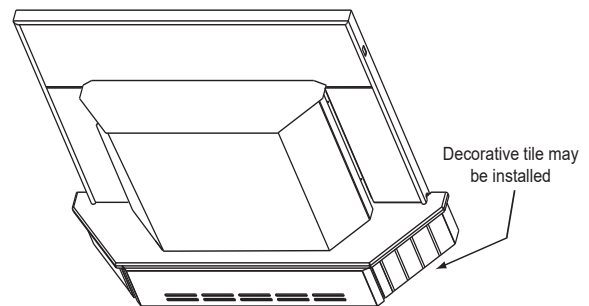

Figure 21.3
3. Measure front and side trims to required height to cover scissors and mark pieces for cutting. Cut excess material from top of trims edge, not bottom. This edge will be sharp; wear gloves to prevent injury to your hands (**Figure 21.3**).
**NOTE:** 3/8 inch (9.5mm) thick tile or like material can be cut to size and fit under lip of top trim edge for a decorative touch (**Figure 21.3**).